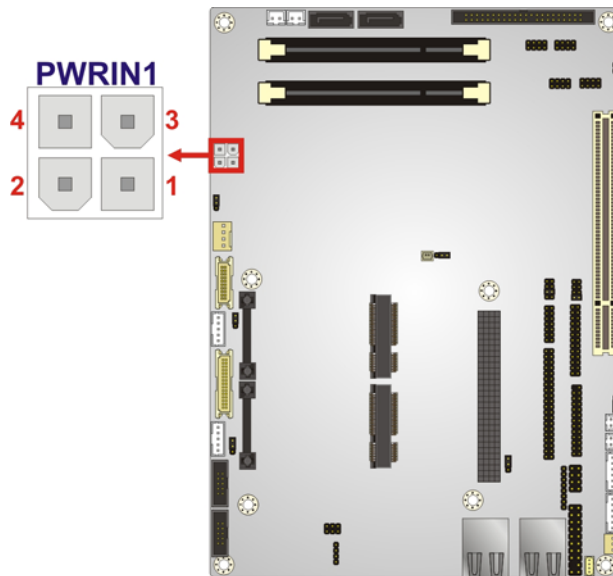

Figure 3-21: CPU 12V Power Connector Location
- CN Location:** See **Figure 3-21**